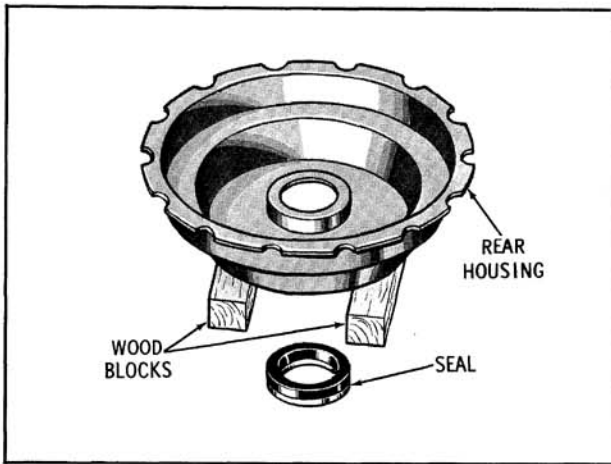

Fig. 11-48 Removal of Bearing Seal from Rear Housing
14. Remove the rear housing seal. (Fig. 11-48)